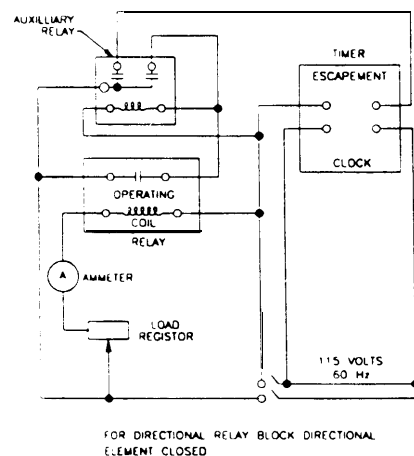

Figure 11-1. Typical test connection for a nondirectional overcurrent relay
(1) *Nondirectional units.* Nondirectional overcurrent relays should be tested at several points on the timecurrent curve, allowing suitable intervals between tests for cooling. Measure the reset time and minimum operating current. Check instantaneous element for pickup and contact action at high and low currents. Caution should be exercised so as not to "burn up" the relay when testing on high currents, or continuously testing at lower currents. Test connections for overcurrent relays are shown in figure 11-1.